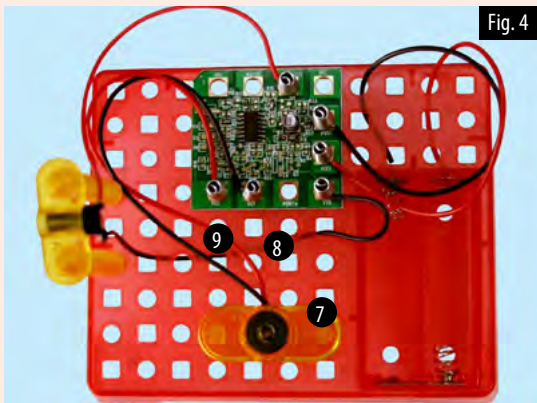

Fig. 4
3. Install the buzzer (3) on the base plate. Insert two spring connectors and connect the buzzer wires to holes (VCC,OUT) as shown in Fig. 4: